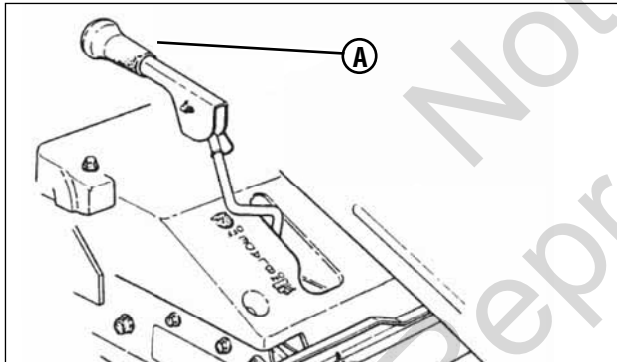

Figure 4: Blade lever (in ‘Off’ position)
2. Make certain the Blade Lever (**A, Figure 4**) is in the “OFF” position.
- Make certain the Blade Lever (**A, Figure 4**) is in the “OFF” position.